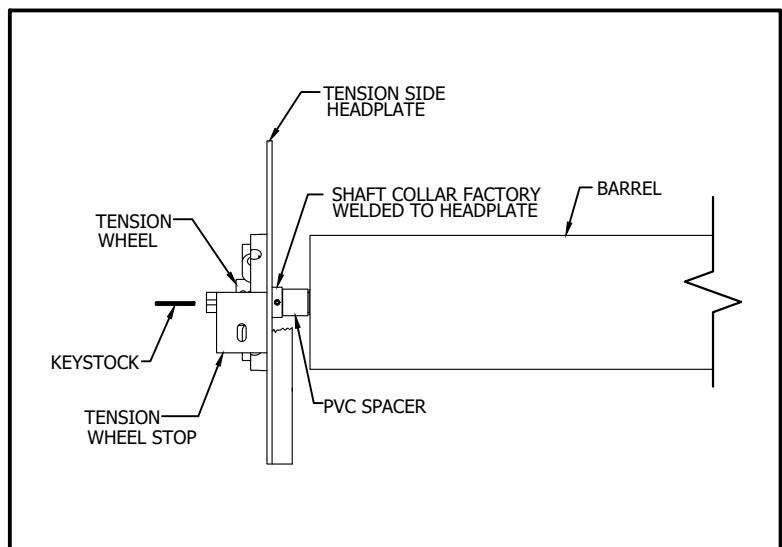

FIGURE 14
c. Install PVC spacer, headplate, tension wheel and keystone on Tension Shaft as shown in Figure 14. Tighten set screws on Tension wheel.